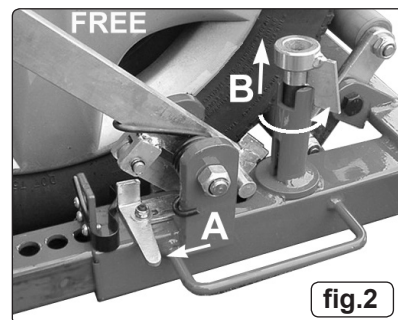

fig.2
See fig.2 - A. (FREE)
4.2.3. Lift the locking pin and tab and turn it anticlockwise so that it is no longer engaged in the slot. See fig.2 - B.(FREE)